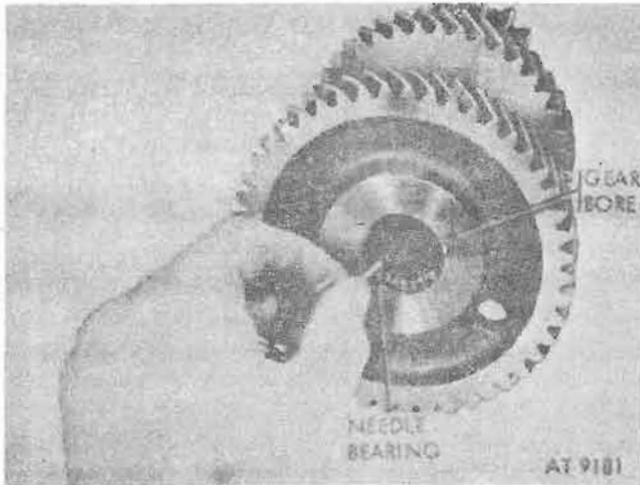

Figure 8-48. Installing needle bearings in cluster gear bore.
b. Coat bearing bore with GAA grease to retain bearings in place and install 18 roller bearings in each end of shaft bore (fig. 8-48).